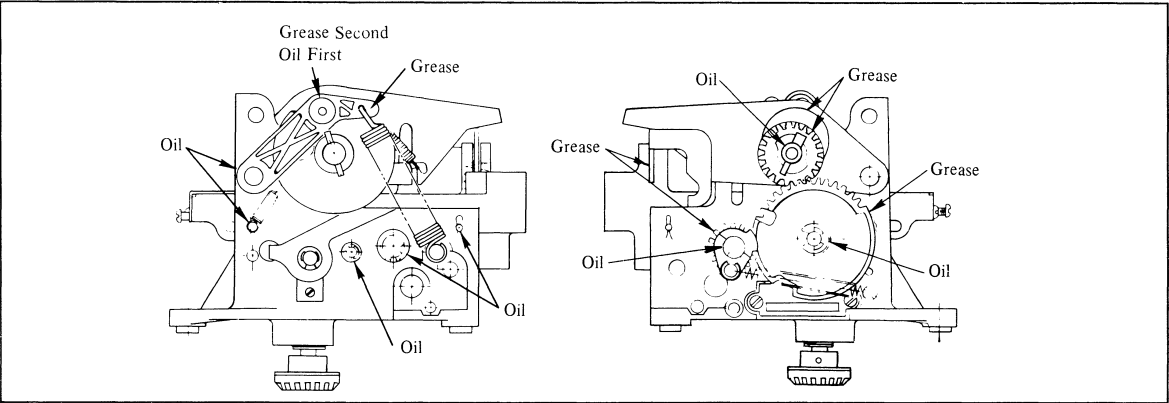

Figure 7. Lubrication Points - Zero Start Printer
D. LUBRICATION POINTS (Figures 7 to 10).
2. Apply recommended or equivalent grease to bearing and mating surfaces of all bevel gears, drive gears, reset gears, wheel ratchets, ticket tray, shafts, studs, and bosses according to Figures 7 to 10.